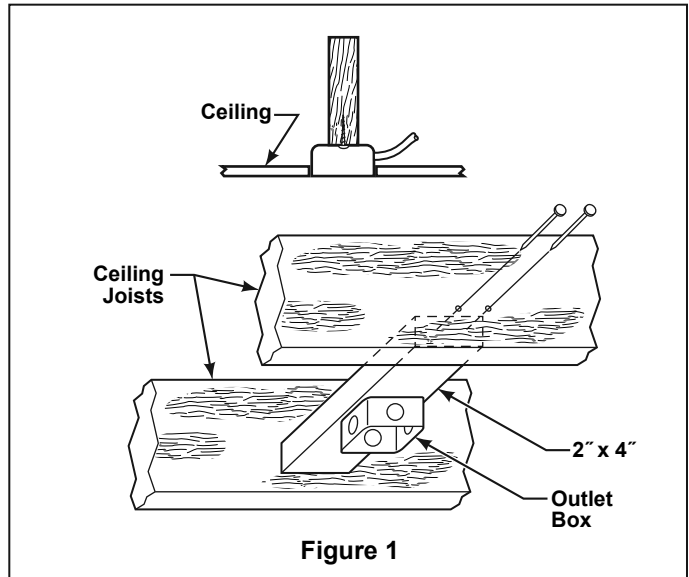

Figure 1
NOTE: If you are uncertain of part description, refer to exploded view illustration. (Figure 1, page 13)
Your new ceiling fan will require a grounded electrical supply line of 120 volts AC, 60 Hz, 15 amp circuit. The outlet box must be securely anchored and capable of withstanding a load of at least 50 lbs. **Figure 1** depicts different structural configurations that may be used for mounting the outlet box.
1. Remove the Hanger Ball by loosening the setscrew in the Hanger Ball until the ball falls freely down the Downrod. (Figure 1) Remove the Pin from the Downrod, then remove the Hanger Ball. Retain the Pin and Hanger Ball for reinstallation in Step 5.
5. Reinstall the Hanger Ball (Figure 1) on the Downrod as follows. Route the three 80" wires and cable through the Hanger Ball. Position the Pin through the two holes in the Downrod and align the Hanger Ball so the Pin is captured in the groove in the top of the Hanger Ball. Pull the Hanger Ball up tight against the pin. **Securely tighten the setscrew in the Hanger Ball.** A loose setscrew could create fan wobble.